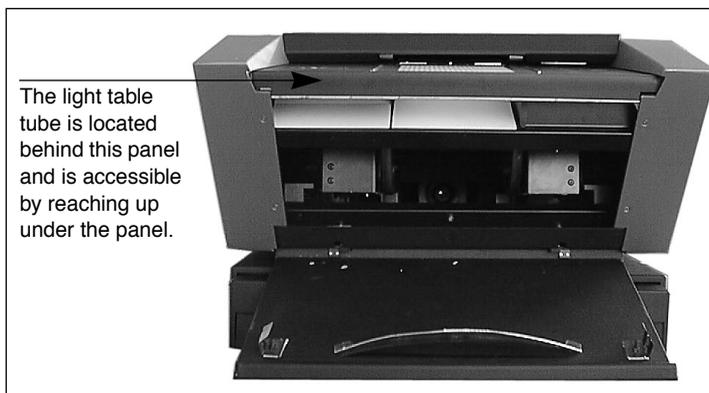

Figure 9: Location of the light table tube
3. The light table tube is located directly behind the panel indicated in Figure 9. It is held in place by two sockets—one at each end of the tube. Grab this tube by each end and gently pull it out of its sockets.